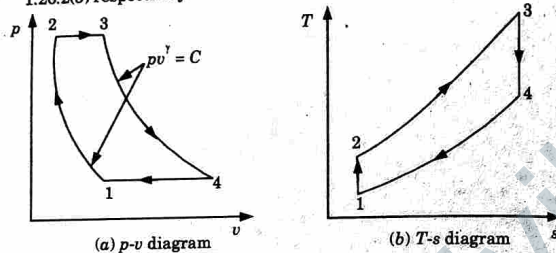

Fig. 1.26.2.
4. Brayton cycle on $p-v$ and $T-s$ diagram is shown in Fig. 1.26.2(a) and 1.26.2(b) respectively.